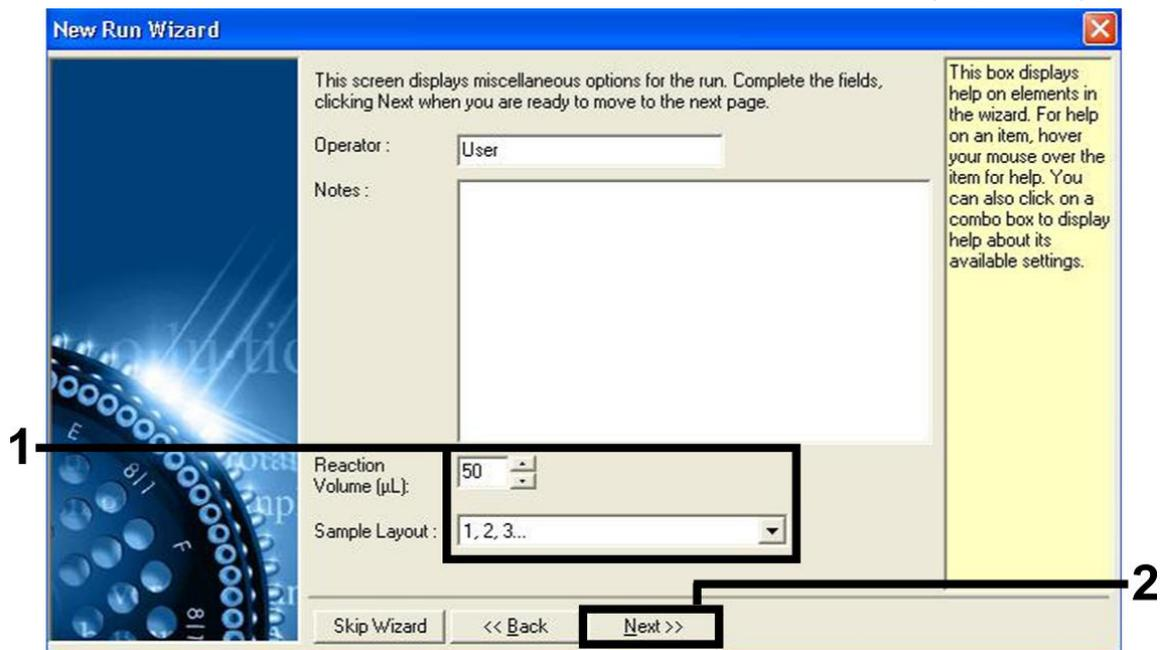

Figure 5. Setting the general assay parameters.
7. Select 50 for the PCR reaction volume and click "Next" (Figure 5).